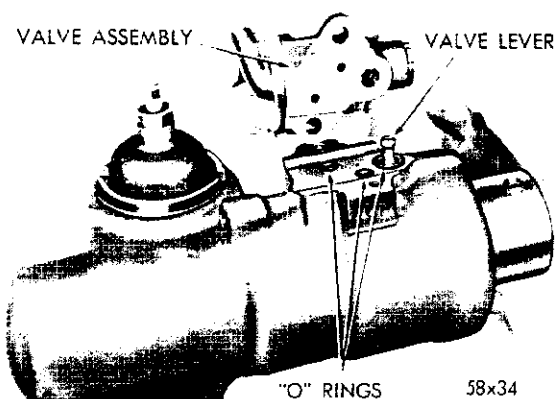
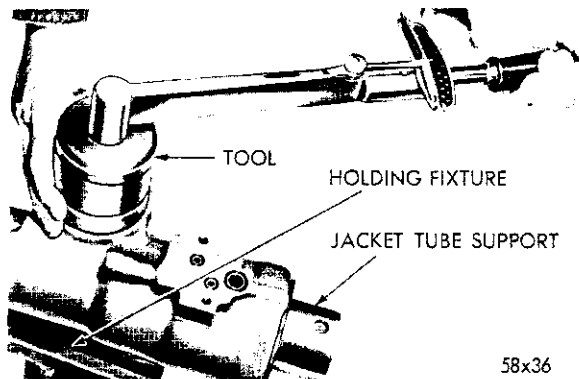

Fig. 31—Removing the Valve Body Assembly (Typical)
Fig. 32—Removing the Gear Shaft Cover Nut (Typical)
(3) Remove the valve body housing attaching screws and remove the valve body and the three "O" rings (Fig. 31).
(4) Remove the valve lever and spring. Pry under the spherical head with a screwdriver. Use care not to collapse the slotted end of the valve lever as this will destroy the bearing tolerances of the spherical head.
(5) Loosen the gear shaft adjusting screw locknut to facilitate removal and remove the gear shaft cover nut with Tool C-3633 (Fig. 32).